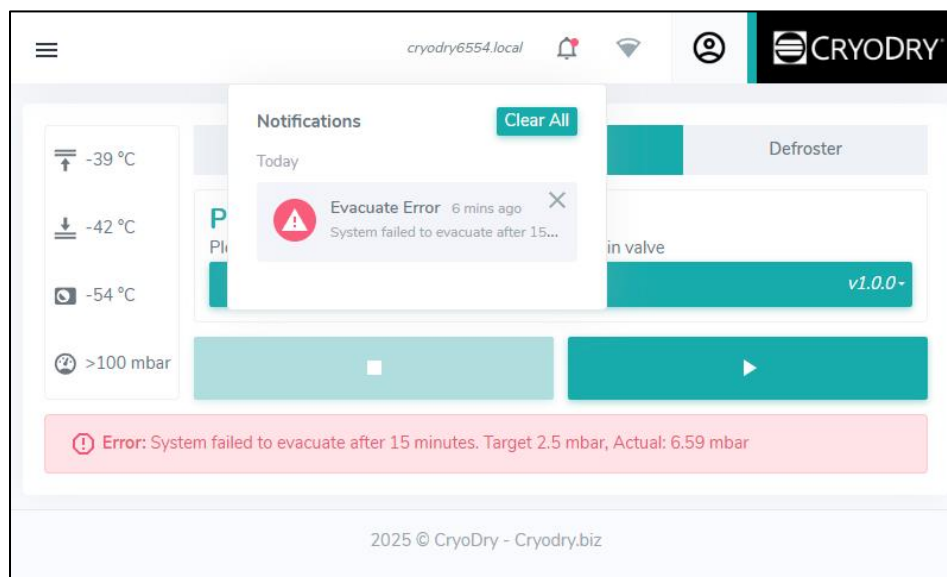

Figure 55
The Evacuation stage will only run for up to 15 minutes. If the evacuation has exceeded that time and the chamber pressure is more than 0.5 mbar from the setpoint, the machine will abort the cycle and enable the compressor in the manual page. If the recipe is in VO mode (see section **10.9.4.2 Vacuum Oven (VO) Mode**), then the compressor will not be enabled. The message below will appear, indicating that the Evacuation stage has failed (Figure 55).